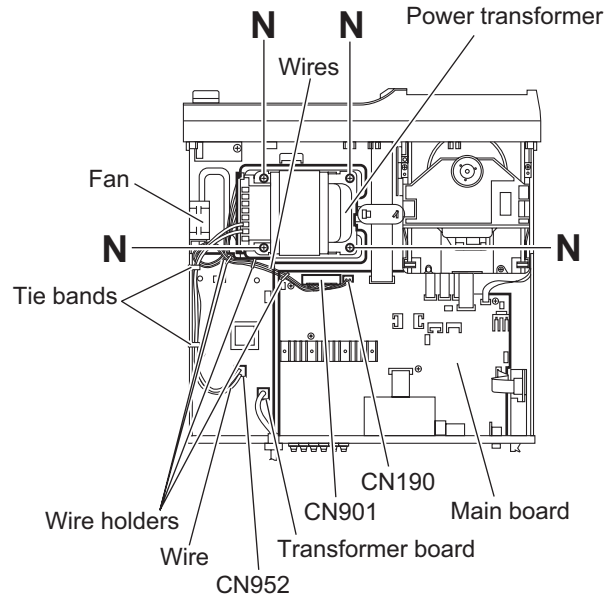

Fig.16
3.1.11 Removing the power transformer (See Fig.16)
3.1.12 Removing the fan motor (See Figs.16 and 17)
- From the top side of the main body, remove the wire holders bundling the wires. (See Fig.16.)
- Disconnect the wire from the connector CN190 on the main board. (See Fig.16.)
After connecting the wire to the connector CN190, bundle the wires with the wire holders as before. (See Fig.16.)